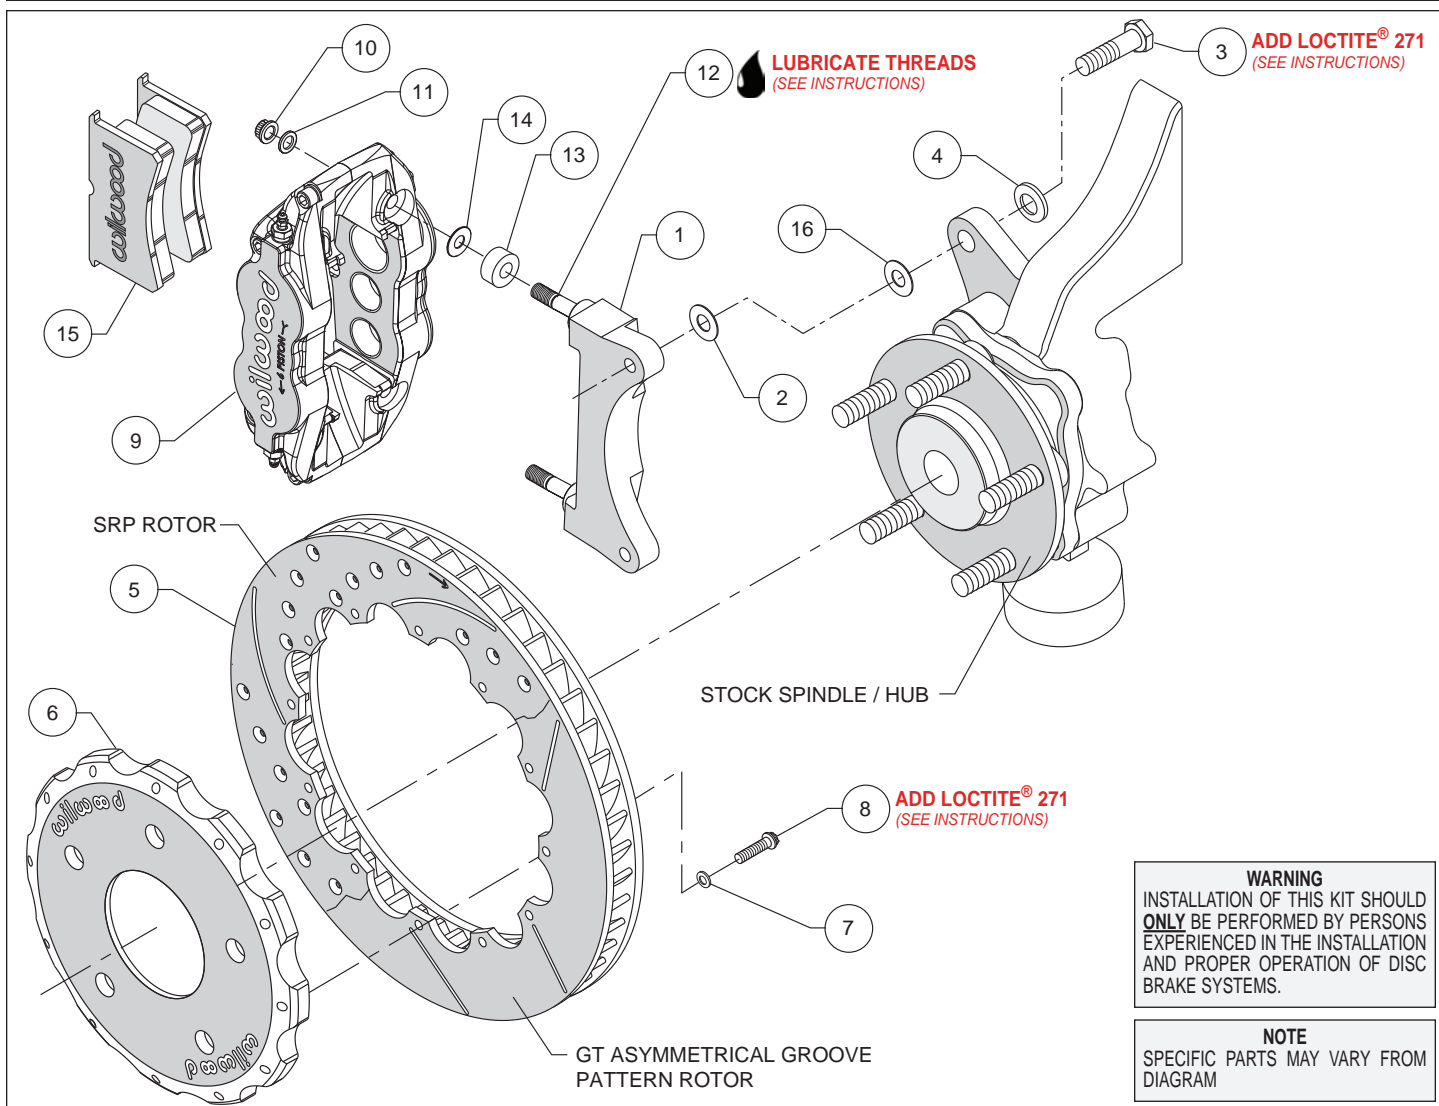

Figure 1. Typical Installation Configuration
- The caliper mounting bracket assembly (1) should be installed first with clean, dry threads on the mounting bolts. Install the bracket from the front side of the spindle by sliding bolt (3) through washer (4), and spindle ear. Place shim washer (2) between the bracket (1) and the spindle (see Figure 1). The bracket must tighten squarely against the side of the spindle body. Inspect for interference from casting irregularities, machining ridges, burrs, etc. Use one thin shim (2) between the bracket (1) and spindle during initial trial fitting.
- NOTE:** This kit contains distinct right and left hand calipers that must be mounted in a specific direction, as described below. Lubricate the caliper mounting studs (12) with lightweight oil. Initially place one .035" thick shim (14) and spacer (13) on each stud as shown in Figure 1. Mount the caliper (9) onto the bracket (1) using lock nuts (10) and washers (11), Figure 1. Ensure that the caliper is mounted so that the largest pistons are at the rotor exit end of the caliper, in relation to the direction of rotor rotation. Temporarily tighten the lock nuts and view the rotor through the top opening of the caliper. The rotor should be centered in the caliper. If not, adjust by adding or subtracting shims (2 and/or 16) between the bracket and the upright. Always use the same amount of shims on each of the two mounting bolts. Once the caliper alignment is correct, remove the bracket mounting bolts one at a time, apply red *Loctite*® 271 to the threads, and torque to 60 ft-lb.
- Remove the caliper center bridge pad retainer bolt, nut, and tube from the caliper. Slide the brake pads (15) into place. They should install easily without interference. Check that the outside radius of the brake pad is aligned with the outside diameter radius of the rotor face. Add or subtract shims (14) between the caliper and mount bracket to gain the proper alignment. Reinstall the center bridge pad retainer tube, bolt, and locknut. The locknut should be snug without play in the bolt or tube. Be cautious not to over tighten.
- Once all clearances have been checked, remove the wheel, caliper, hat, and rotor from the spindle and hub. Secure the caliper mounting bracket (1) to the spindle with bolt (3) using red *Loctite*® 271. Torque bolt (3) to 60 ft-lb. Reinstall the hat and rotor assembly and again use lug nuts to hold it in place. Lubricate caliper mounting studs and nuts with lightweight oil, reinstall the caliper, torque the caliper nuts (10) to 30 ft-lb.